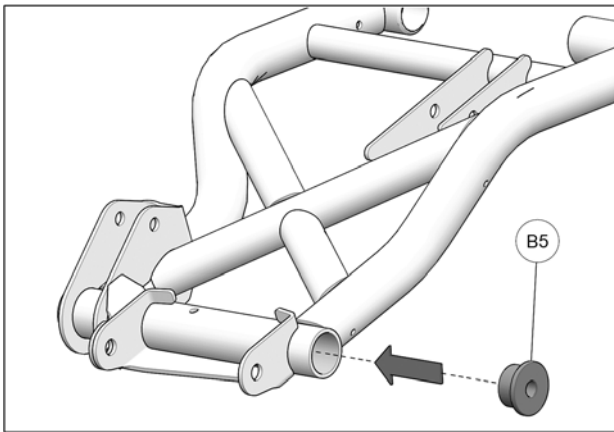

Fig. 4
- Insert T-Bushing (**B5**) in the lower suspension arm's large opening that faces front of vehicle. See Fig. 4